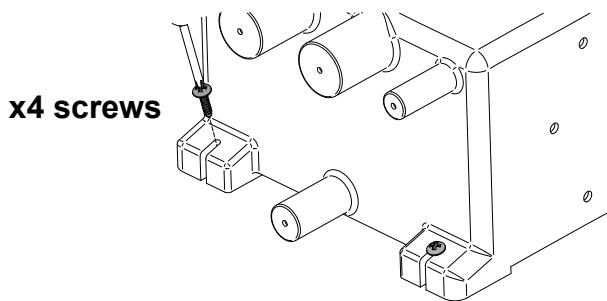
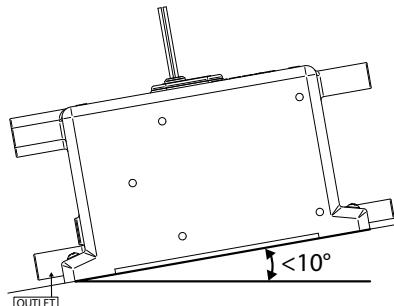

Figure 4 Securing The Tank
Figure 5 Maximum Possible Angle of Installation
| Fig. 4 | Securing the Tank |
| Fig. 5 | Maximum Possible Angle of Installation |
Step 2: The tank must be secured using 4 appropriate screws, through the feet of the tank as shown in Figure 4. **NOTE:** The angle of the tank must not exceed 10° (Figure 5). **NOTE:** Do not screw directly to the hull – MUST be mounted on a bulkhead or an additional board.